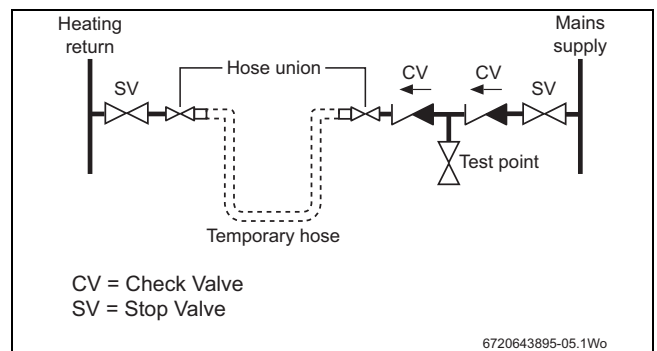

Fig. 4 System fill
- The CH sealed system must be filled using a WRAS approved filling loop or comply with figure 4 for system fill.
- Where the system volume is more than 100 litres or exceeds 2.65 bar at maximum heating temperature, an extra expansion vessel (2) must be fitted as close as possible to the appliance in the central heating return.
- Pressurise the extra expansion vessel (2) to the same figure as the expansion vessel built into the appliance.